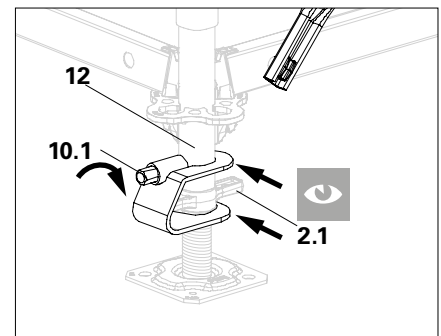

Fig. A1.13b
2. Tighten the spindle locking with the screw (**10.1**) in the hole of the vertical (**12.1**). (Fig. A1.13b)